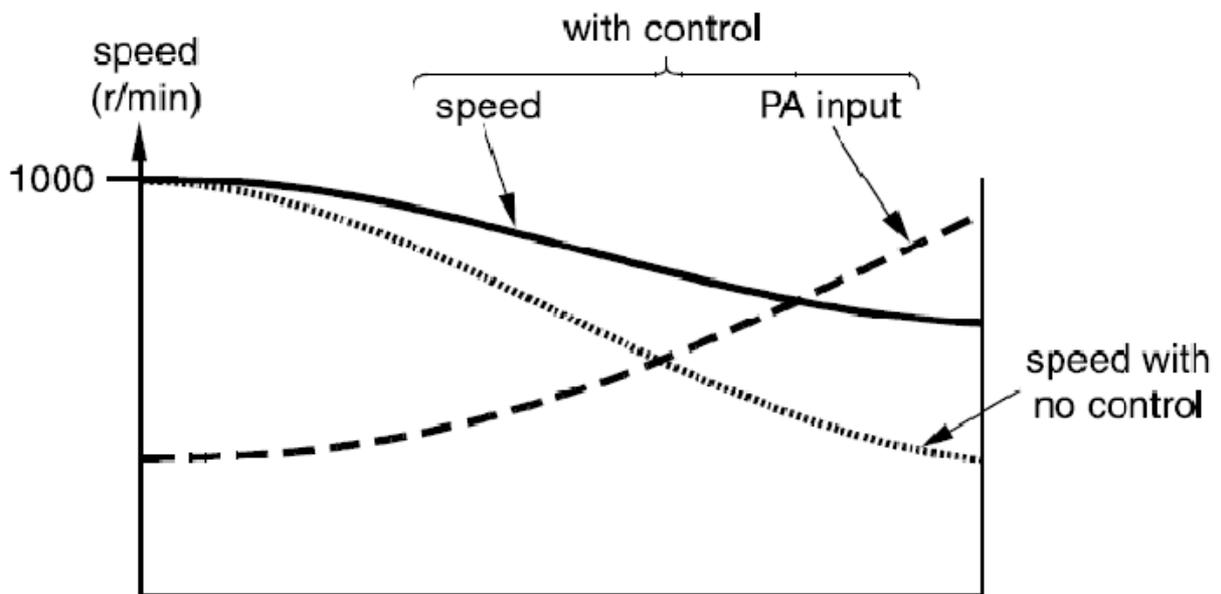

Figure 12. Speed Regulation with and without Closed-Loop Control.
3. Set P2 to zero and **fill in the following table then plot the speed against brake setting to full brake load.** The general characteristic should be as in Figure 12.